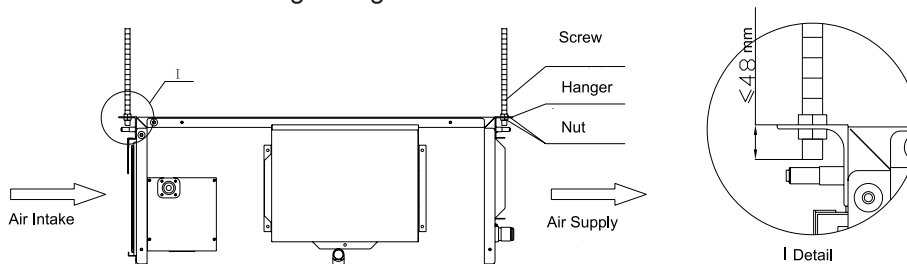

Figure 1-1-5
- e. Install the indoor unit at the ceiling as Figure 1-1-5 shows.